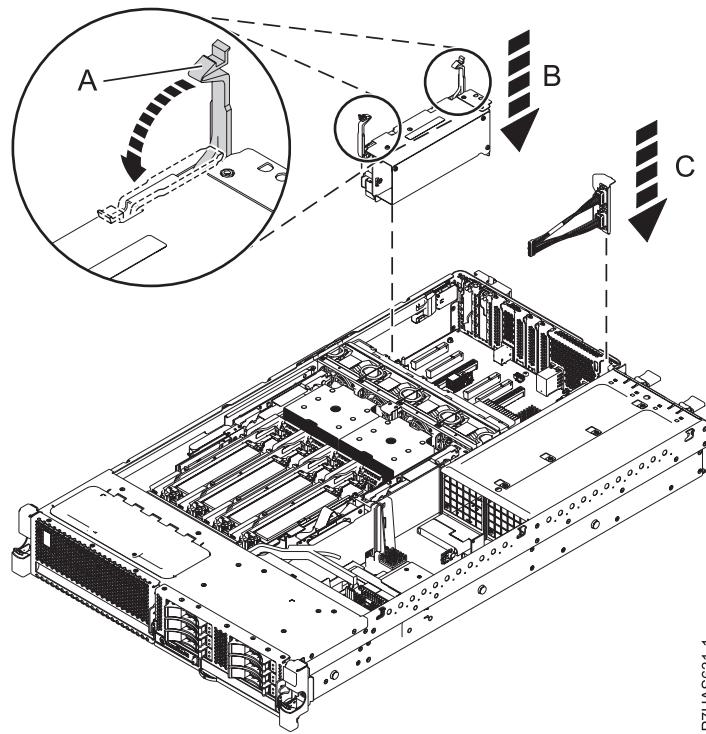

Figure 2. Installing the FC EJ0G GX adapter in a system
9. Prepare to install the new adapter by pulling out the latches (A) on the adapter into the open position, as shown in Figure 2. The GX++ adapter FC EJ0G (2-Port 12X IB2 Adapter with 2-Port SPCN CD) (B) is installed in GX slot 2 and the FC EJ0G 2-port SPCN cable assembly (C) is installed in GX slot 1.
12. Evenly rotate the latches (A) into the locked position, as shown in Figure 2.
- a. Carefully grasp the FC EJ0G 2-port SPCN cable assembly (C) shown in Figure 2 by the top of the tailstock bracket, and align it with GX slot 1 (P1-C1) opening in the rear of the chassis.